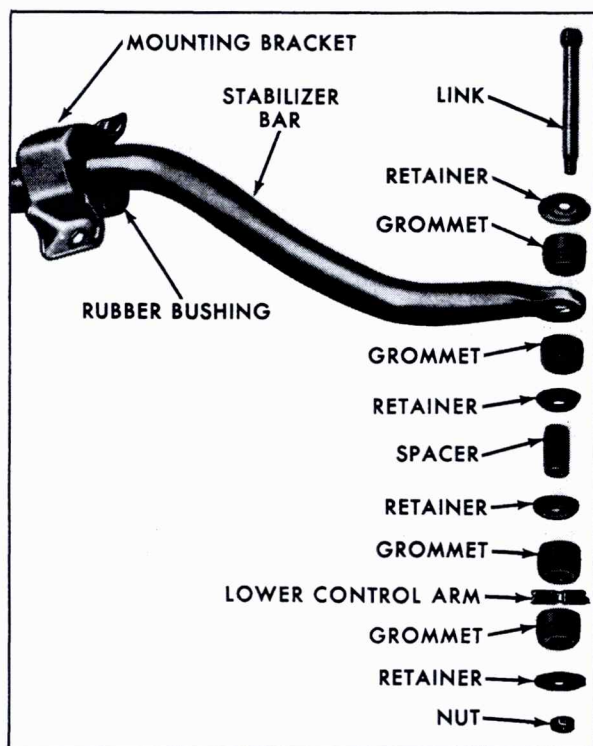

Fig. 3-55 Front Stabilizer Linkage
2. Assemble grommets, spacers, and retainers on new link bolt as shown in Fig. 3-55.